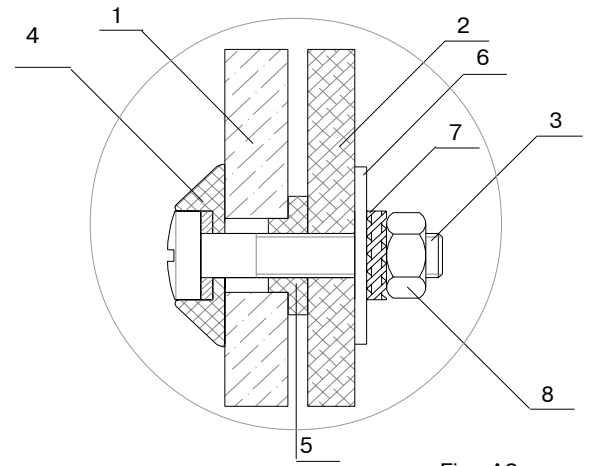
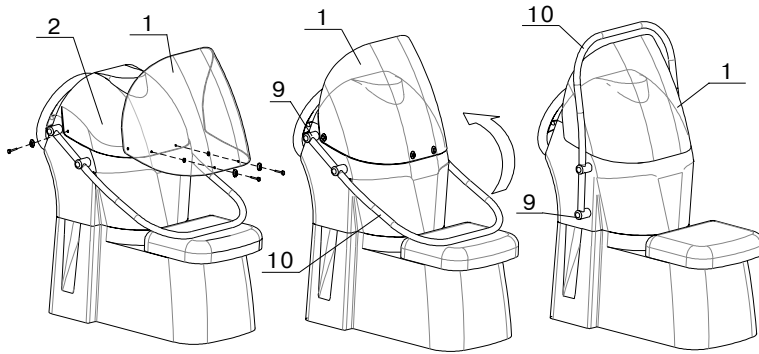

Fig. A2
Fig. A1
1. Install the windscreen 1(see Fig.A1, Fig.A2) onto the console 2.
2.Set the handrail to the regular position (see Fig.A1).